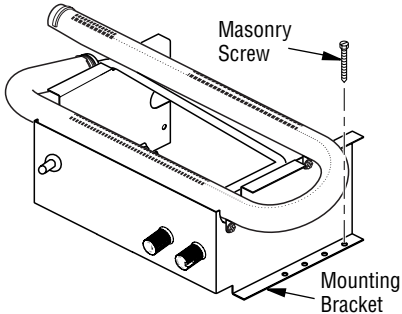

Figure 12 - Attaching Base to Fireplace Floor
7. Mark screw locations through one hole on each side of the mounting bracket (see **Figure 12, Page 13**). If installing in a brick-bottom fireplace, mark screw locations in mortar joint of bricks.